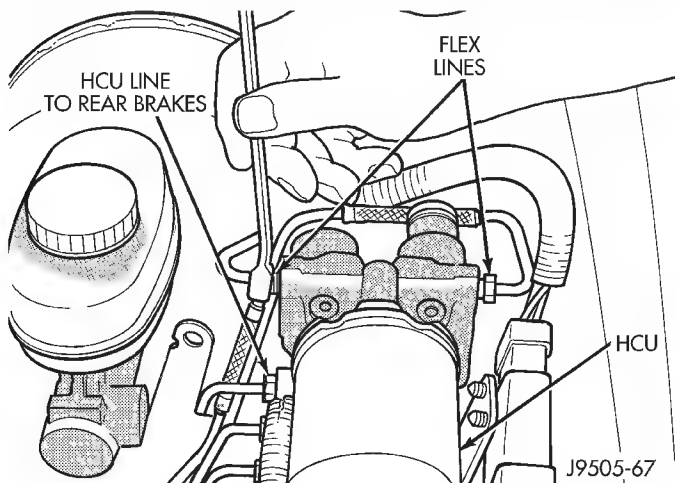

Fig. 18 Disconnecting Flex Lines From HCU
(6) Disconnect both flex brakelines at HCU (Fig. 18).
(5) Connect flex lines to HCU (Fig. 18). Start